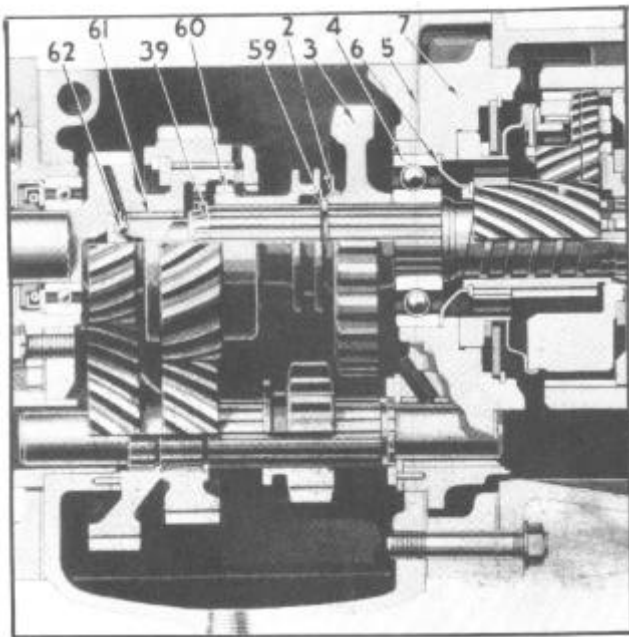

Figure 27--Removing Transmission Main Shaft
10. Remove transmission main shaft and reverse gear retainer lock (2), Figure 27, by prying with a pointed tool. Lift out two gear retainers (59).
11. Take out two cap screws attaching housing adapter (7) to transmission case and pull adapter off transmission. Transmission main shaft (39), main shaft bearing